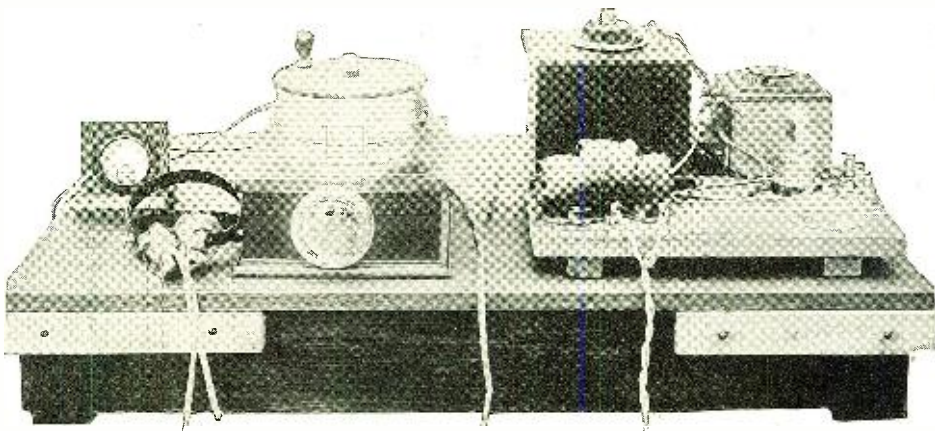

Fig. 5. The Assembled Receiving Set and Measuring Instruments Used in the Signal Comparison Tests.
The comparison signal was furnished by a small audio frequency vacuum tube oscillator. Fig. 4b shows the diagram of connection and Fig. 5 the assembled set. Fig. 6 shows the complete receiving set and the galvanometer and potentiometer used in the signal comparison set. The output current of this passed through a known resistance R and a milliammeter (S), thus giving known voltage drop across the resistance. By means of the slider any fraction of this voltage could be applied to the phones. To make a measurement the phones were connected to the receiving set by means of the D. P. T. switch and the receiving set tuned to give the maximum signal. The switch was then thrown back and forth from the receiving set to the comparison set and the slider adjusted until the signals were of equal intensity, that is, the signal voltage was equal to the voltage drop across RS. This method, while requiring some slight experience before it could be used quickly, was capable of giving very good accuracy.